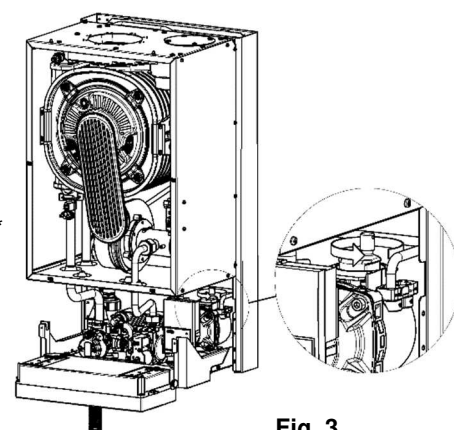

Fig. 3
6. Loosen the stopper on the automatic air-vent of the pump. In order to protect the pressure transducer from water, point the outlet of stopper to the right (fig. 3).